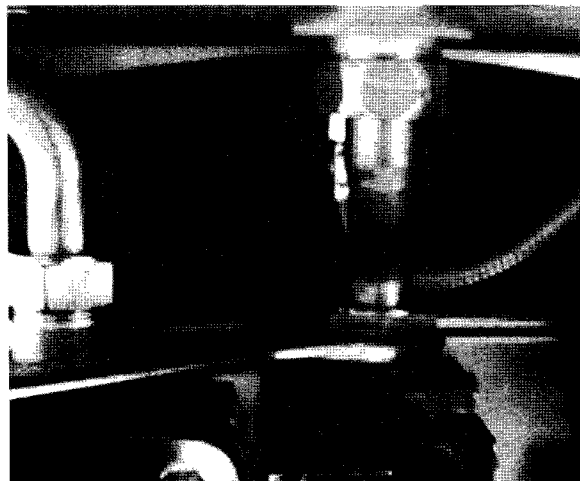

Figure 41
- ☐ Release the connection from gas valve and manifold inlet, retaining the washers for use on reassembly (*figure 41*).